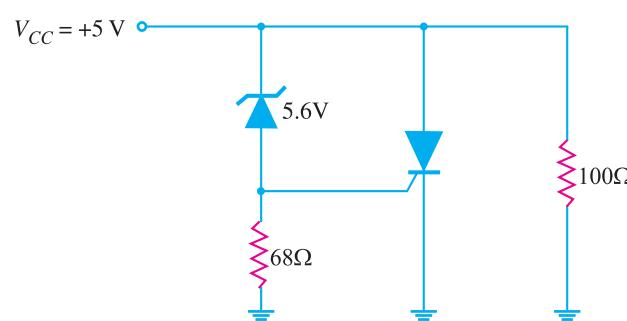

Fig. 20.26
**Example 20.13.** In Fig. 20.26, the SCR has a trigger voltage of 0.7 V. Calculate the supply voltage that turns on the crowbar. Ignore zener diode resistance.